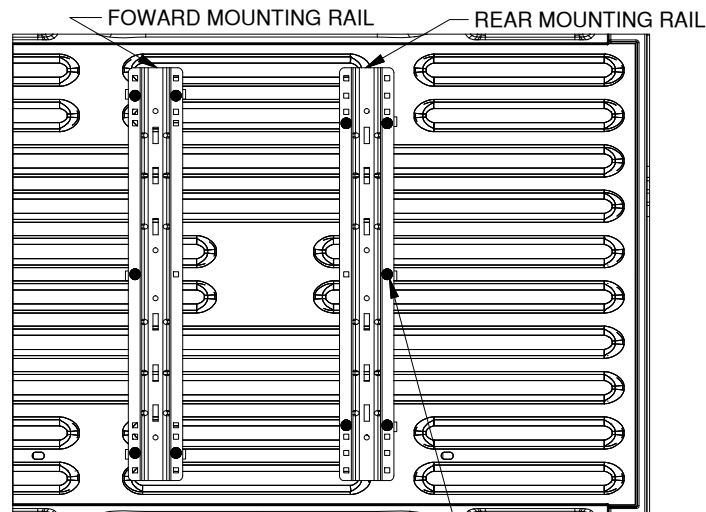

Figure A2: Detail view over bed, showing drill locations for the forward and rear bed rails.
2. **Mark hole locations:** While carefully ensuring the mounting rail does not move, use a center punch tool to mark the 5 drill locations on the forward rail. See figure A2 for hole marking locations for this installation (rear rails will install on a later step). Once all 5 forward rail locations are clearly marked, move the bed rail out of the way and drill each location with an 1/8" drill.
3. **Drill rear mounting holes.** Using the same methods as used for the forward mounting rail, mark and drill the 1/8" holes for the rear mounting rail. Refer to "DRILL FORWARD MOUNTING HOLES" section, step 2, on a previous page. Notice that the hole locations are slightly different than the forward rail, see figure A2 (on the second page).